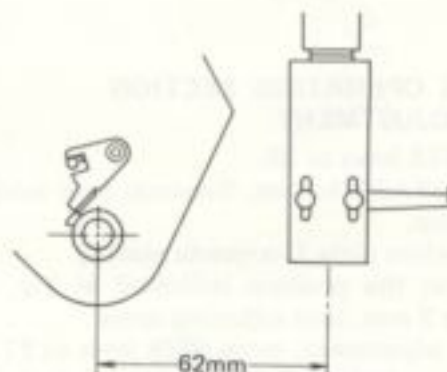
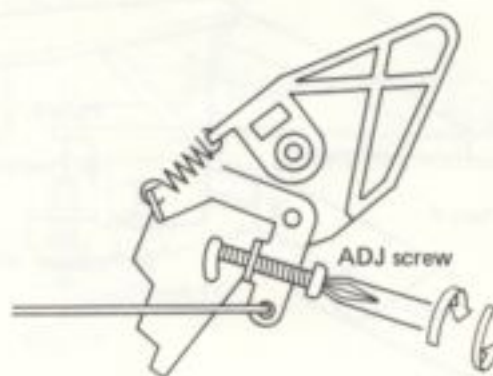

Fig. 41
Fig. 42
5. At this time, so that distance indicated in Fig. 41 becomes  $62 \pm \frac{1}{2}$  mm, adjust screw shown in Fig. 42.